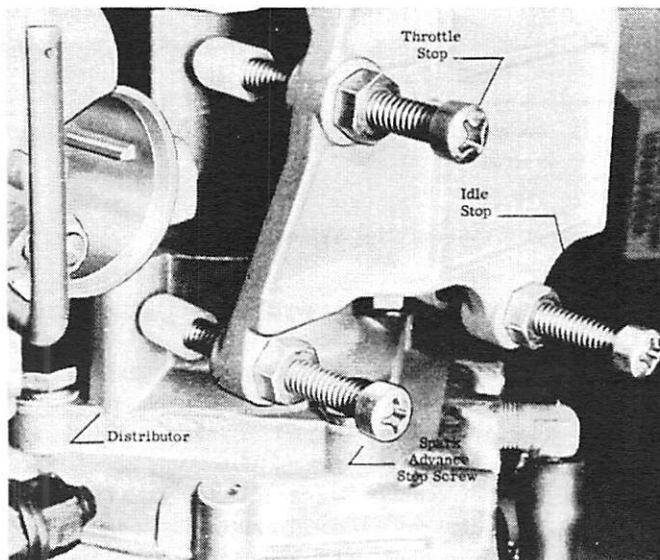

Figure 4. Spark Advance Adjustment
11. Retard distributor against "idle speed" stop screw. (Figure 4)
2. Adjust "throttle stop" screw on stop bracket (Figure 4) to allow full throttle shutter opening but not to allow throttle shutters to act as a stop or the carburetor cluster to hit carburetor filter bowl.
2. Idle engine and adjust "idle speed" screw on stop bracket (Figure 4) so that engine idles at 500 RPM in forward gear.